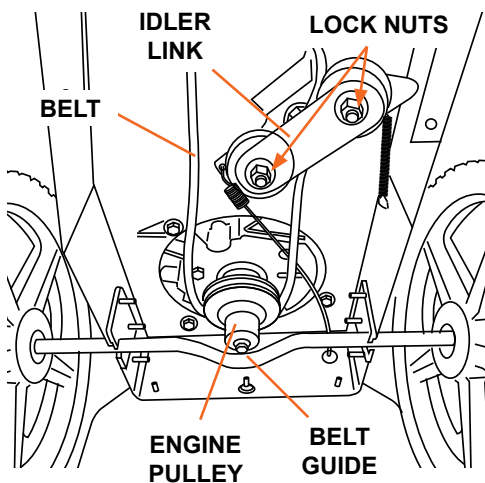

Figure 18
4. Loosen the belt guide locknut using a 10mm wrench (see Figure 18) and rotate the guide out of the way.